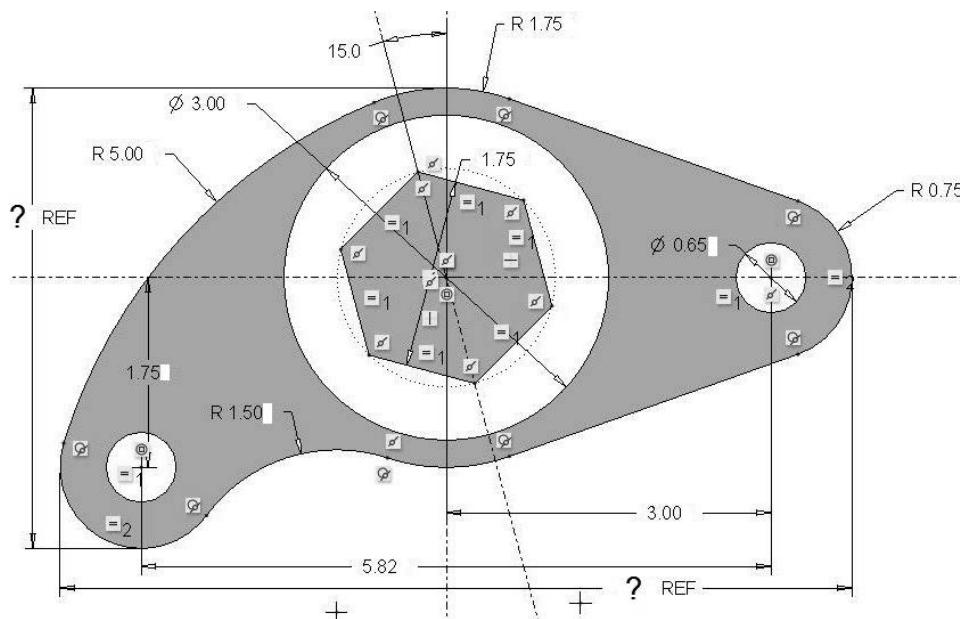

Figure 3-73 Problem 4—Rocker Arm
3.4 Draw the front view of "rocker_arm" (Figure 3-73). **Design Intent**—The hexagonal shaped hole of the rocker must be offset by 15 degrees. The right 0.65-inch diameter hole must be 3.00 inches from the center hex hole. The left 0.65-inch diameter hole must be 5.62 inches from the right hole. What is the overall size of rocker arm?